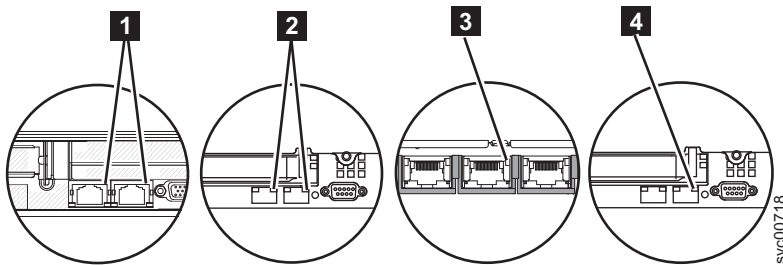
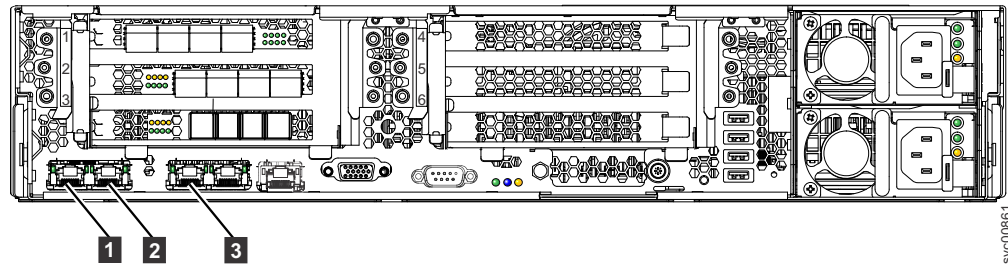

Figure 83. Port 2 Ethernet link LED on the SAN Volume Controller rear panel
Figure 84. Ethernet ports on the rear of the SAN Volume Controller 2145-DH8
- a. Plug the Ethernet cable from that node into the Ethernet port 2 from a different node, as shown in Figure 83 and Figure 84 on page 341.